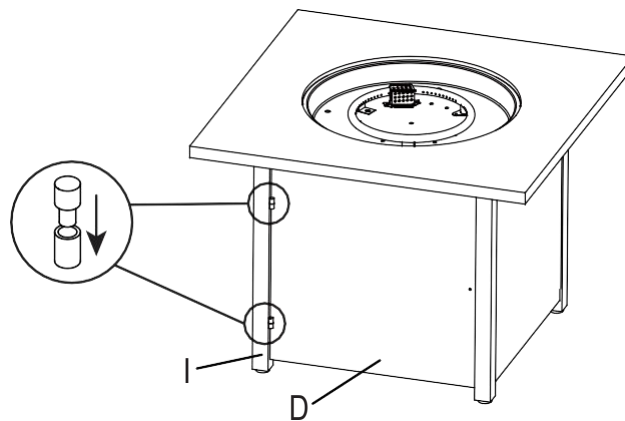

Figure 7
7. With the help of another person, carefully turn the fire pit to the upright position. Attach the door panel (D) to the back-left leg (I) by aligning the hinge on the door panel with those on the back-left leg (I) and inserting the pins in the hinges, (see Figure 7).